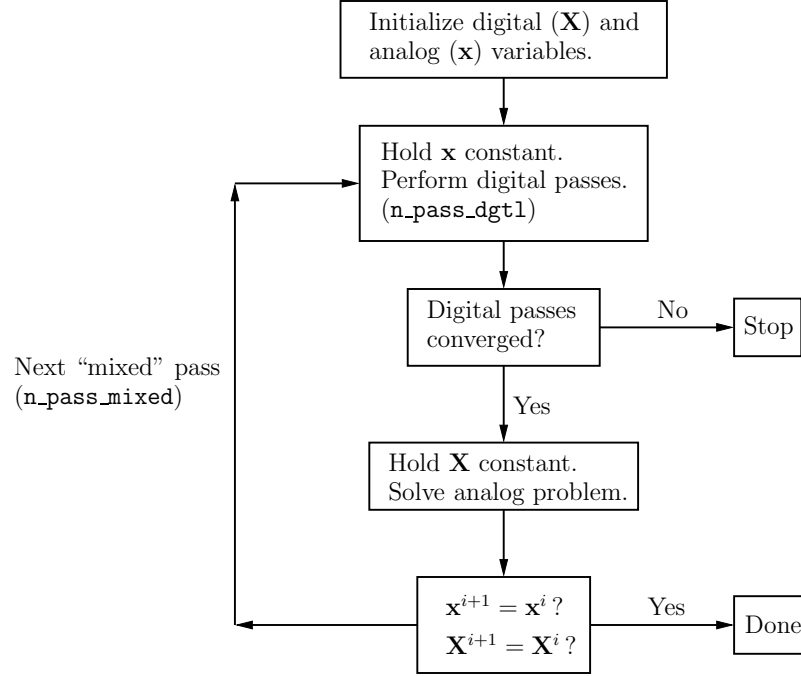

Figure 21: Flow chart for mixed-signal analysis in DC or start-up condition.
For DC or start-up analysis, the flow chart shown in Fig. 21 has been implemented in SEQUEL. We now have inner passes for obtaining the solution for the digital variables (\mathbf{X}) and outer passes to ensure that the analog variables (\mathbf{x}) are also consistent with the digital variables (\mathbf{X}). The parameter **n_pass_mixed** governs the outer passes:
- * **n_pass_mixed** (optional, default=20): maximum number of outer passes (see Fig. 21) to be made in obtaining DC or start-up solution for circuits involving digital and analog elements. Note that the inner passes in this case are still governed by the parameter **n_pass_dgt1** which was seen earlier.